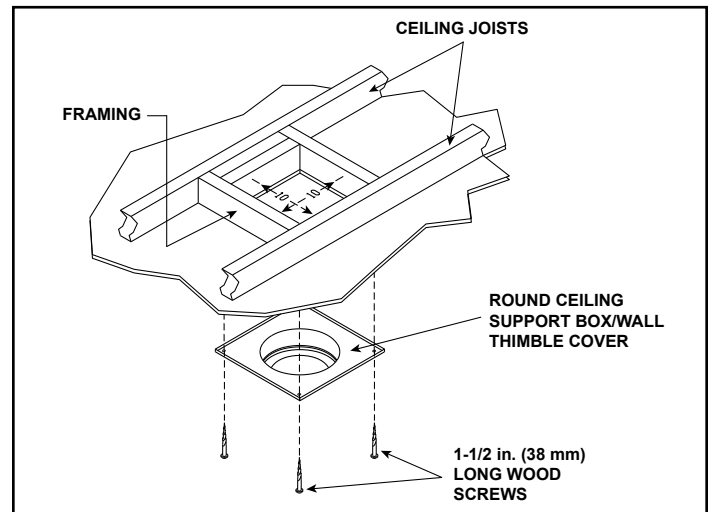
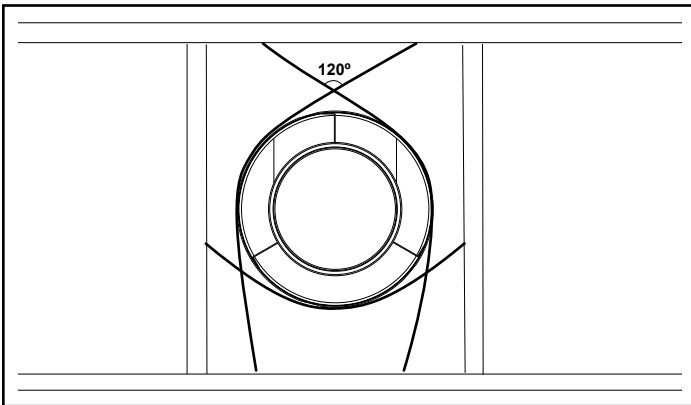

Figure 5.12
Figure 5.16 - Securing Vertical Pipe Sections
3. To install the round support box/wall thimble cover in a flat ceiling, cut a 10 in. (254 mm) square hole in the ceiling, centered on the hole drilled in Step 2. Frame the hole as shown in Figure 5.12.
Note: For multi-story vertical installations, a ceiling firestop is required at the second floor, and any subsequent floors (Figure 5.16). The opening should be framed to 10 in. x 10 in. (254 mm x 254 mm) inside dimensions, in the same manner as shown in Figure 5.12.
- Vent supports or plumbers strap (spaced 120° apart) may be used to support vent sections. See Figures 5.16 and 5.17.